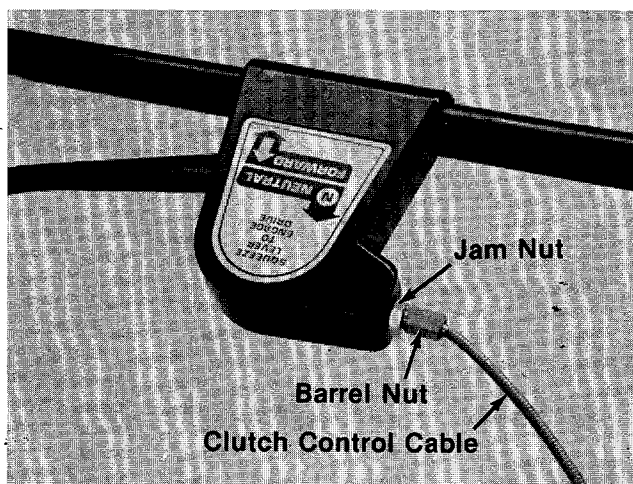

FIGURE 18.
1. If the unit does not self-propel in the "FORWARD" position of the clutch control, loosen jam nut and back off two or three threads. Thread the barrel nut on end of control cable outward two or three threads. Retighten jam nut and retest. See figure 18.
2. If your unit moves forward in the "NEUTRAL" position, loosen jam nut and back off two or three threads. Thread the barrel nut on end of control cable inward two or three threads. Retighten jam nut and retest. Unit should not move forward in neutral position. See figure 18.